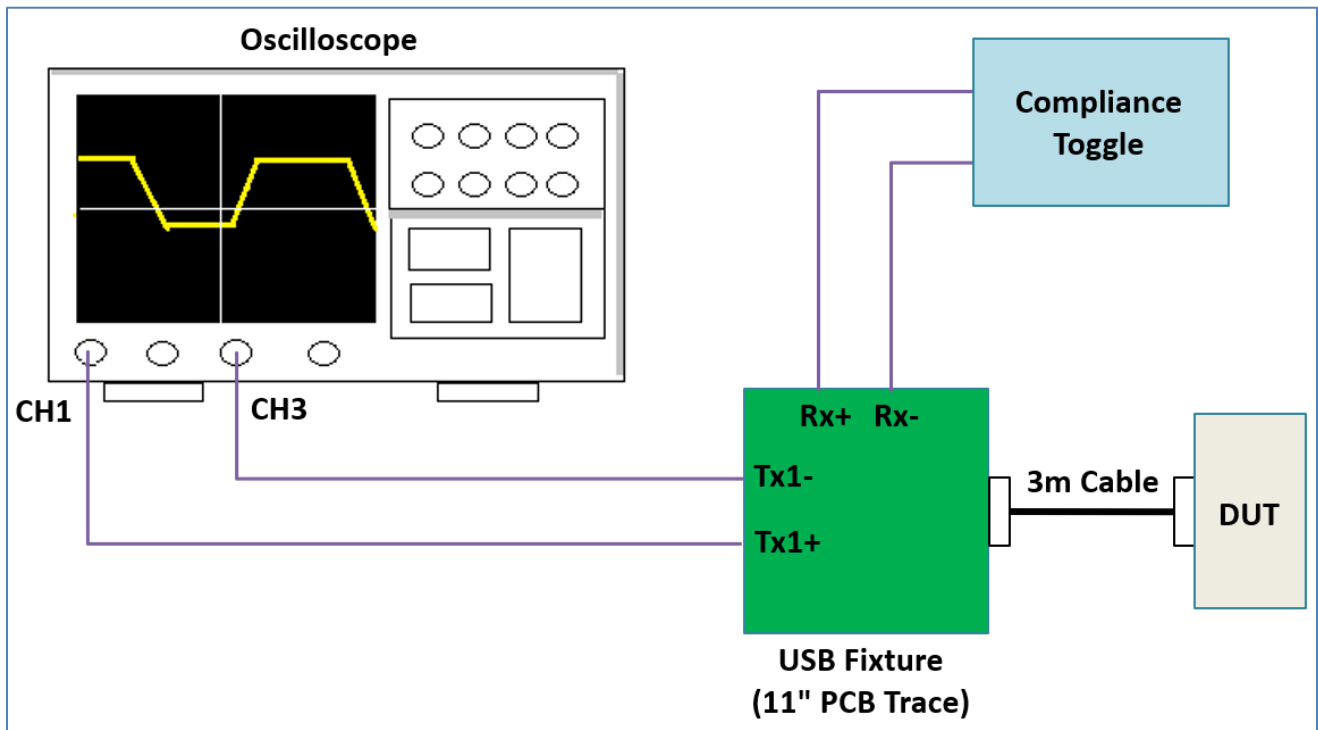

Figure 5.USB 3.2 Gen 1 Std-B (Host/Device) Test with Compliance Toggle Connection Diagram
5. If using a compliance toggle, connect the toggle to Rx+ and Rx- on the USB Fixture as shown in Figure 5 below.